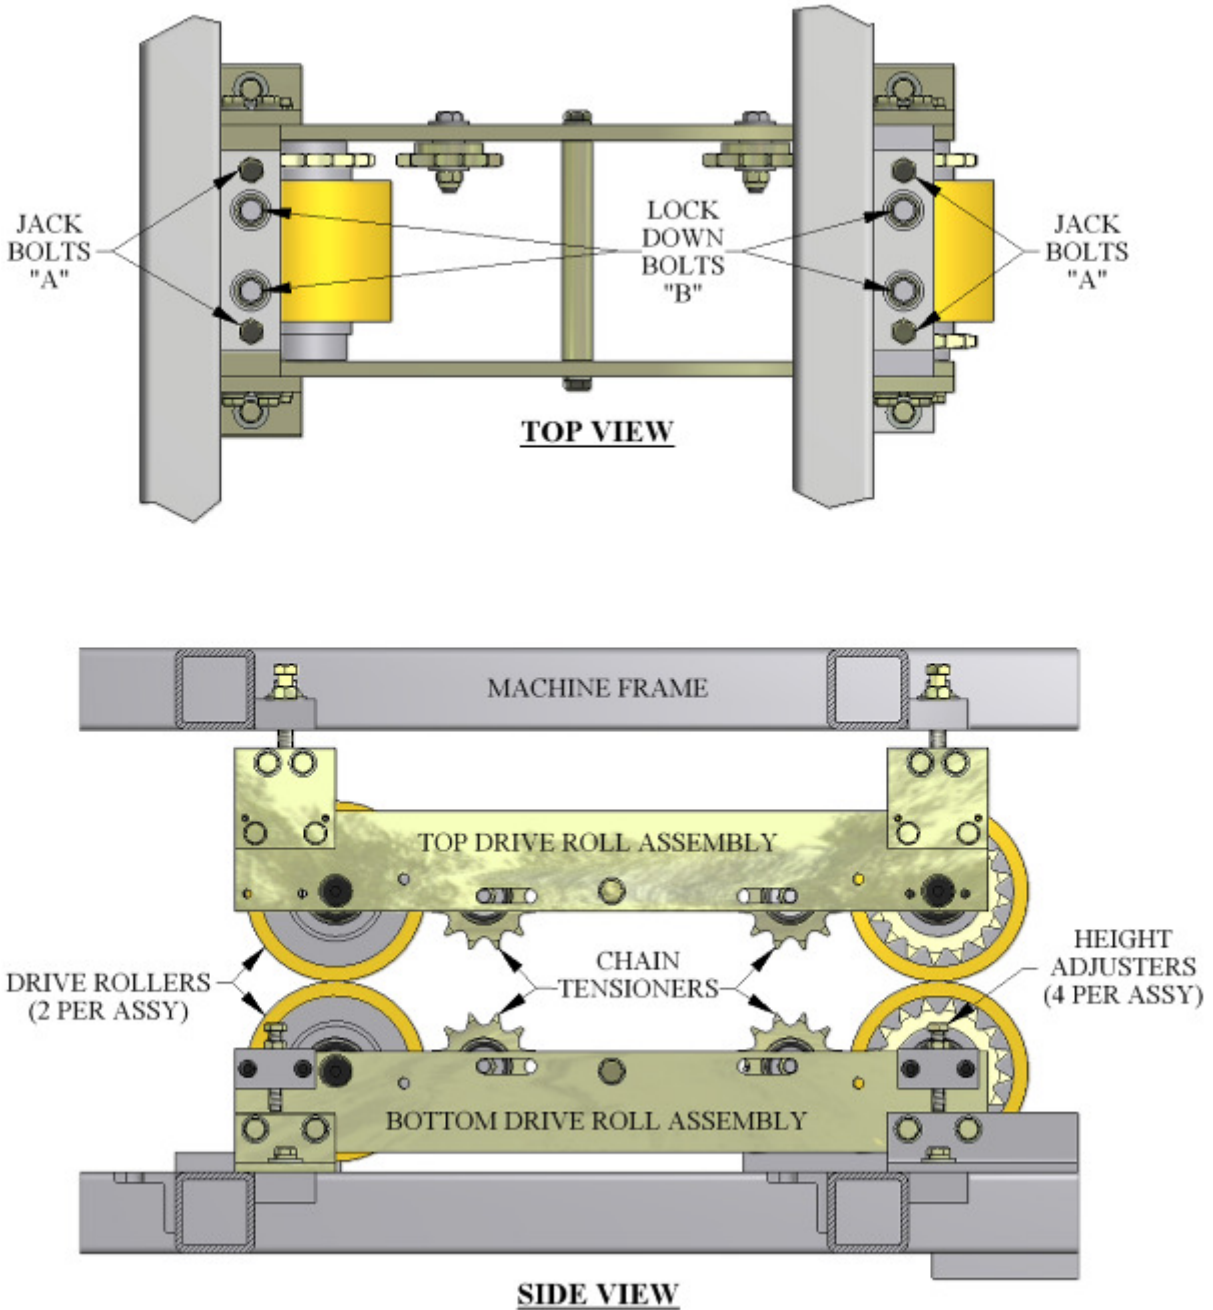
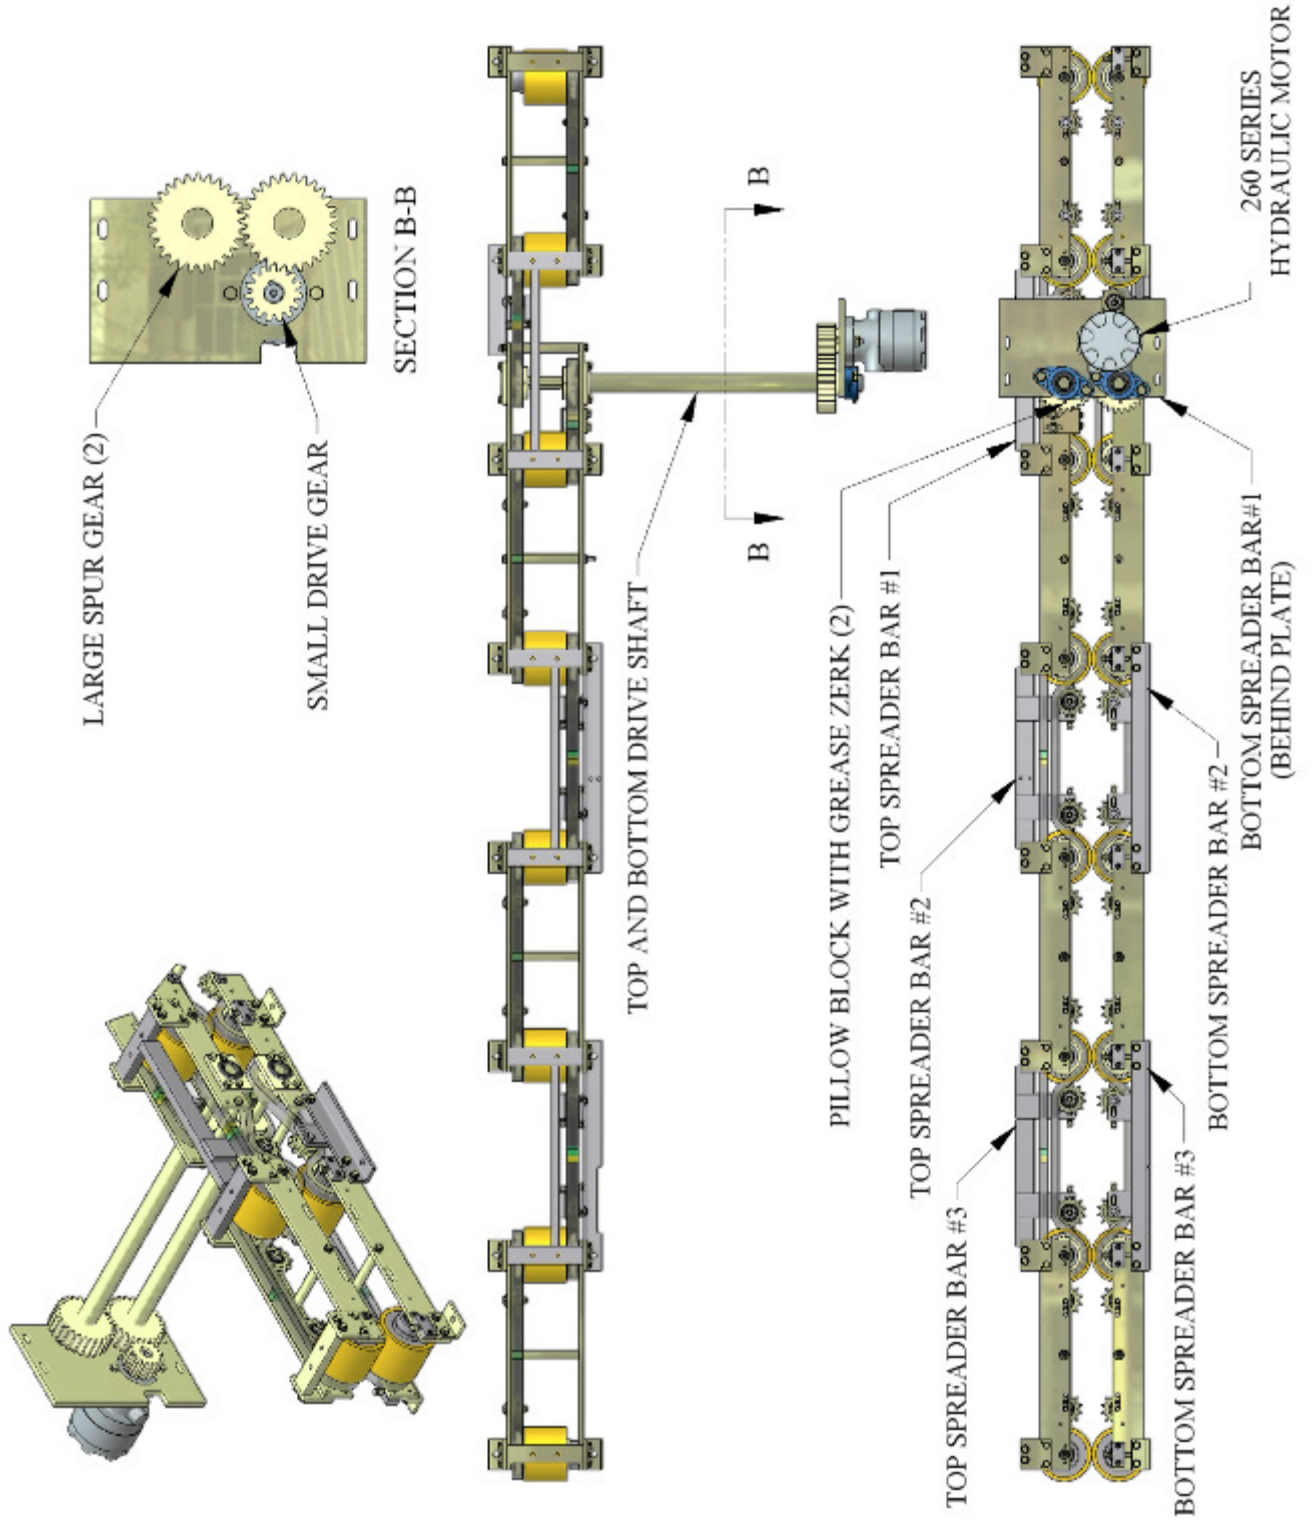
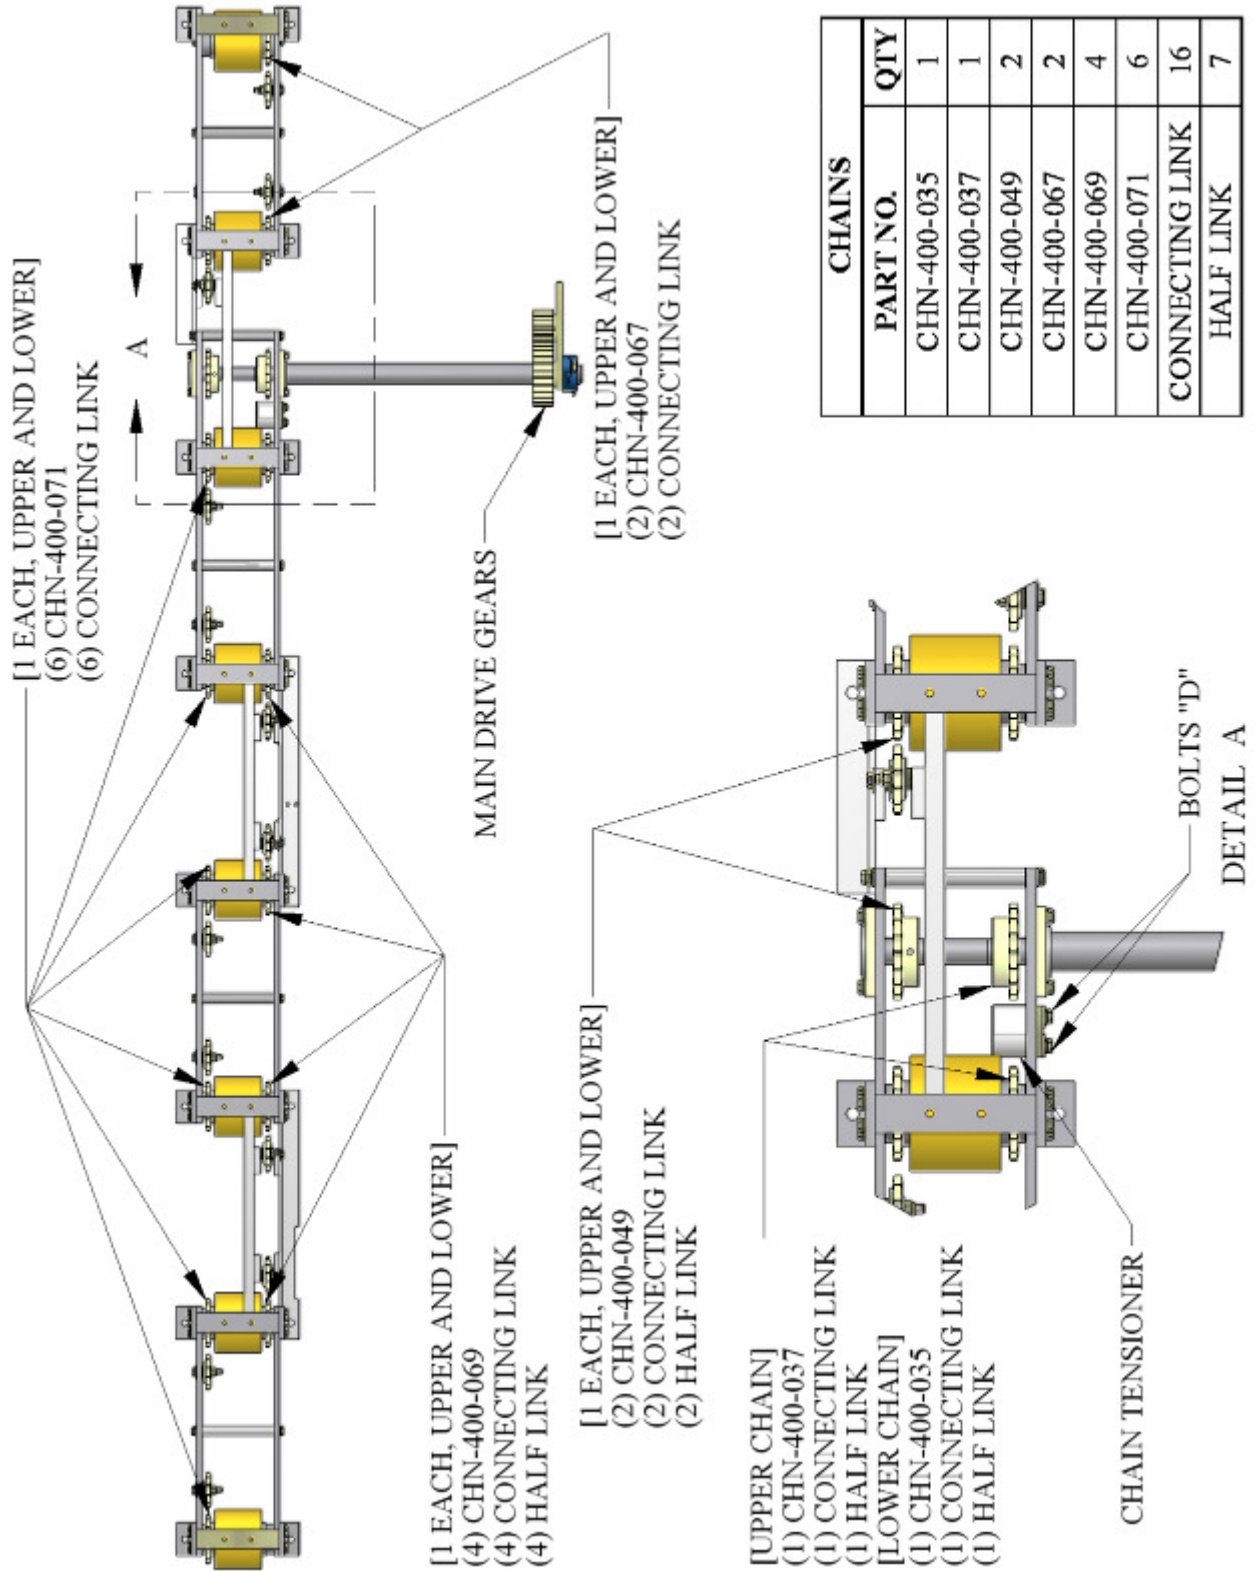

Figure 16: Drive Roll Assembly View
Figure 17: Gears and Shafts
Figure 18: Chains Upper and Lower
(Figure 16, Figure 17 & Figure 18)
- C. The third is located on the Top #1 Spreader Bar between the sprocket and drive roller. (see detail 'A' Figure 18) Loosen two "D" bolts enough so that you can move the tensioner assembly up toward the chain until snug. Re-tighten the two "D" bolts.
3. The chains used in this system are #50 Roller Chain. See Figure 18 for chain locations and lengths if chain replacement is necessary.